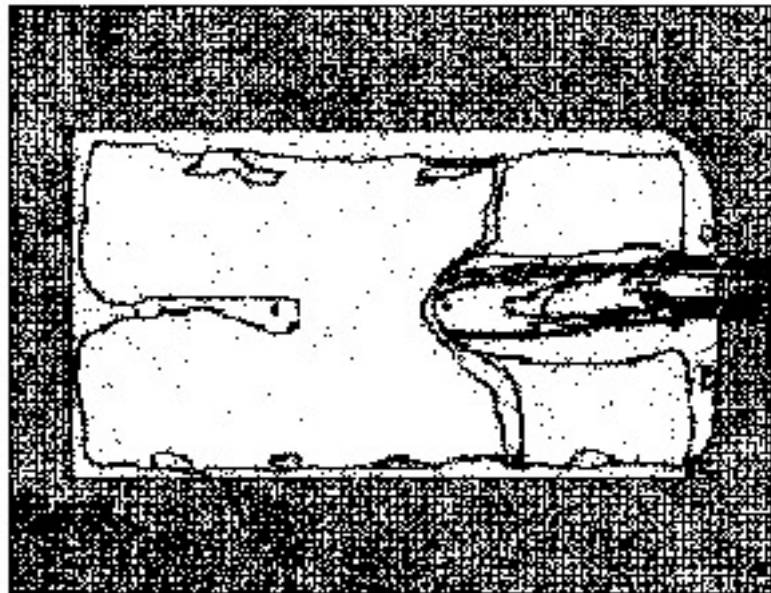

Figure 10
15. PUSH THE CANOPY MATERIAL UP INTO THE FREEBAG UNTIL THE "O" GROMMET IN THE BOTTOM FACE OF THE FREEBAG IS EXPOSED. (SEE FIG. 10)